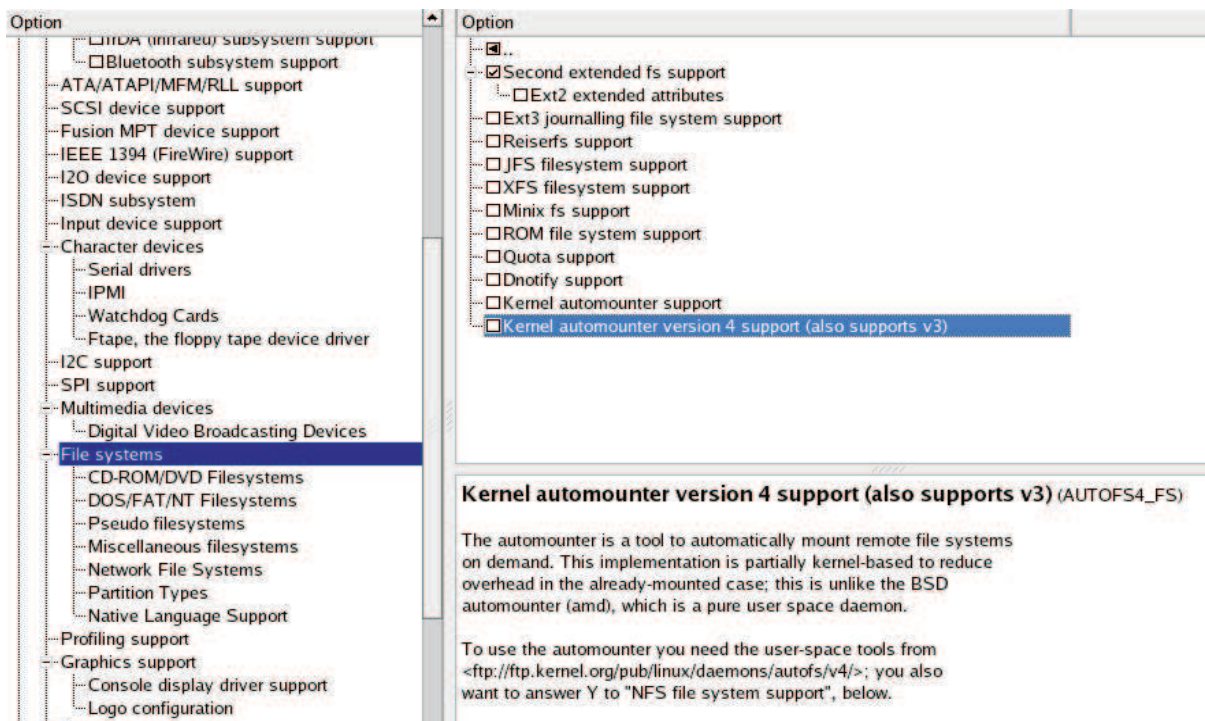

Figure 2. Disable File Systems
11. Under *Device Drivers* → *File systems*, uncheck the *Ext3 journalling file system support*, *XFS file system support*, *Minix fs support*, *Dnotify support*, and *Kernel automounter version 4 support* boxes to disable file system supports. Do not uncheck ext2 file system support, as the ext2 file system is used in the initial RAM disk. See Figure 2.